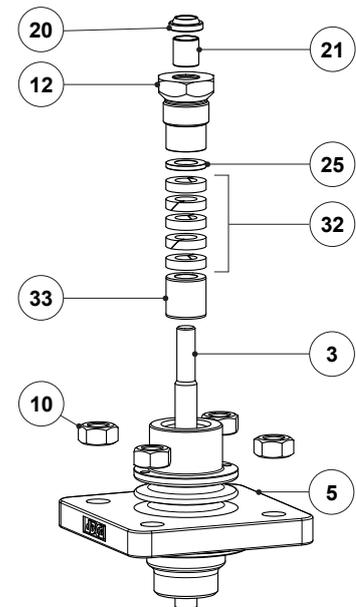

Fig. 11 - Graphite (G1)
1. Unscrew the lock nut (13) from the stem (7).
2. Unscrew the packing nut (12) and remove it carefully.
3. Carefully pull the plug (3) with plug stem (7) out of the bonnet (5) through its bottom. Inspect the stem surface and plug sealing surface, replacing if necessary.
4. Pull out the washer (25), graphite packing set (32), and packing spacer (33) using a suitable tool.
5. Clean the packing box and slide the stem (7) into the bonnet (5) once again.
6. Insert the packing spacer (33), and the new graphite packing set (32) rings one by one. When fitting the graphite rings ensure the scarf joints have an offset from the one below by 90°. See Fig. 11.
7. Renew the scraper ring (20) and plain bearing (21) if necessary.
8. Fit the washer (25), apply a slight smear of anti-seize lubricant to the packing nut (12), and screw it loosely with your fingers until resistance can be felt. The packing must not be significantly compressed at this stage.